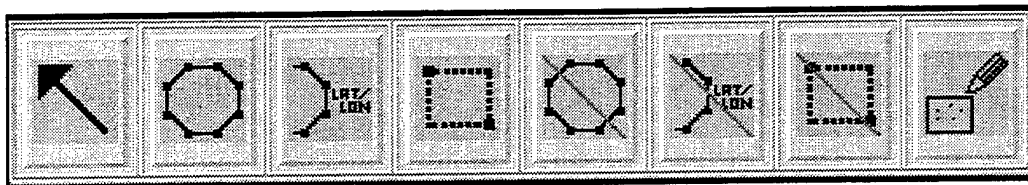

Fig. 8 — Coverage definition buttons
The coverage definition buttons (Fig. 8) allow a user to define coverage areas in four ways: (1) using the mouse to pick points and define a polygon; (2) entering a series of lat/lon points to define a polygon; (3) using the mouse to draw a “rubber-band” box around a coverage; and (4) picking individual CAC segments. Note that when a button’s icon is light gray, it is not currently available for use.